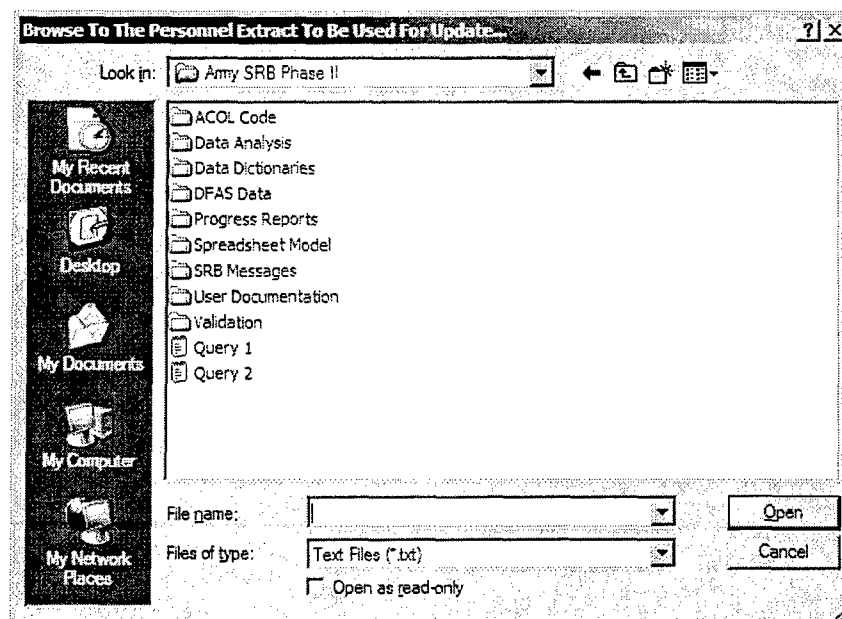

Figure 20. Monthly Update Browse Window
3. Browse to the text file to be used for the update (Figure 20).